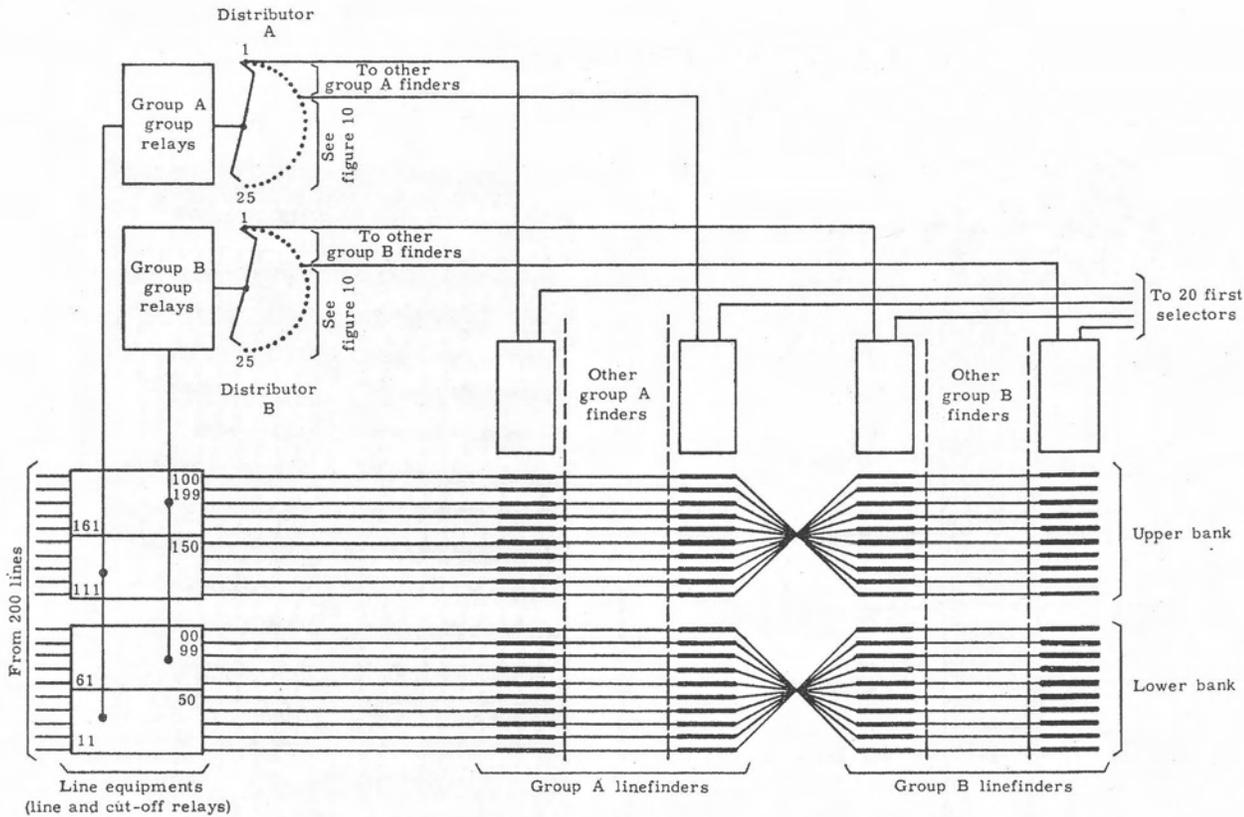
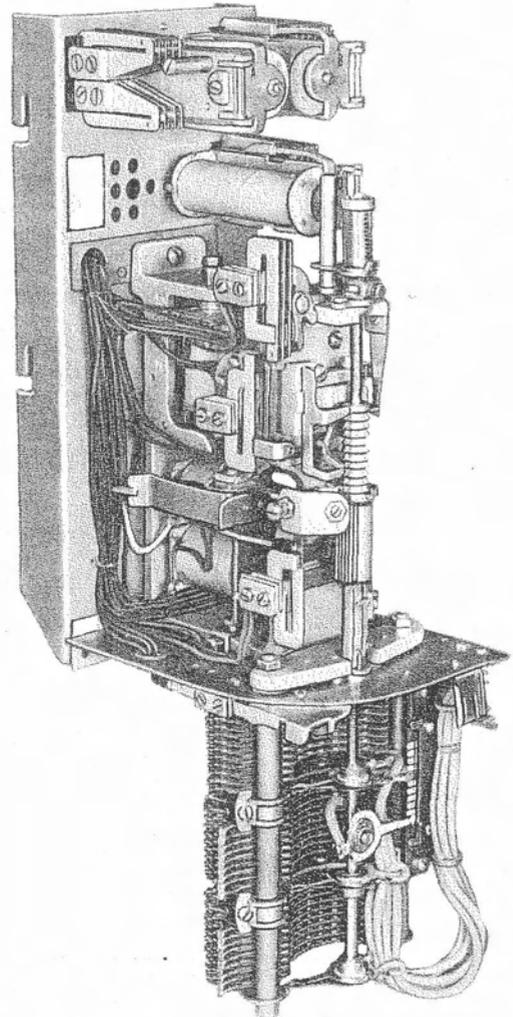
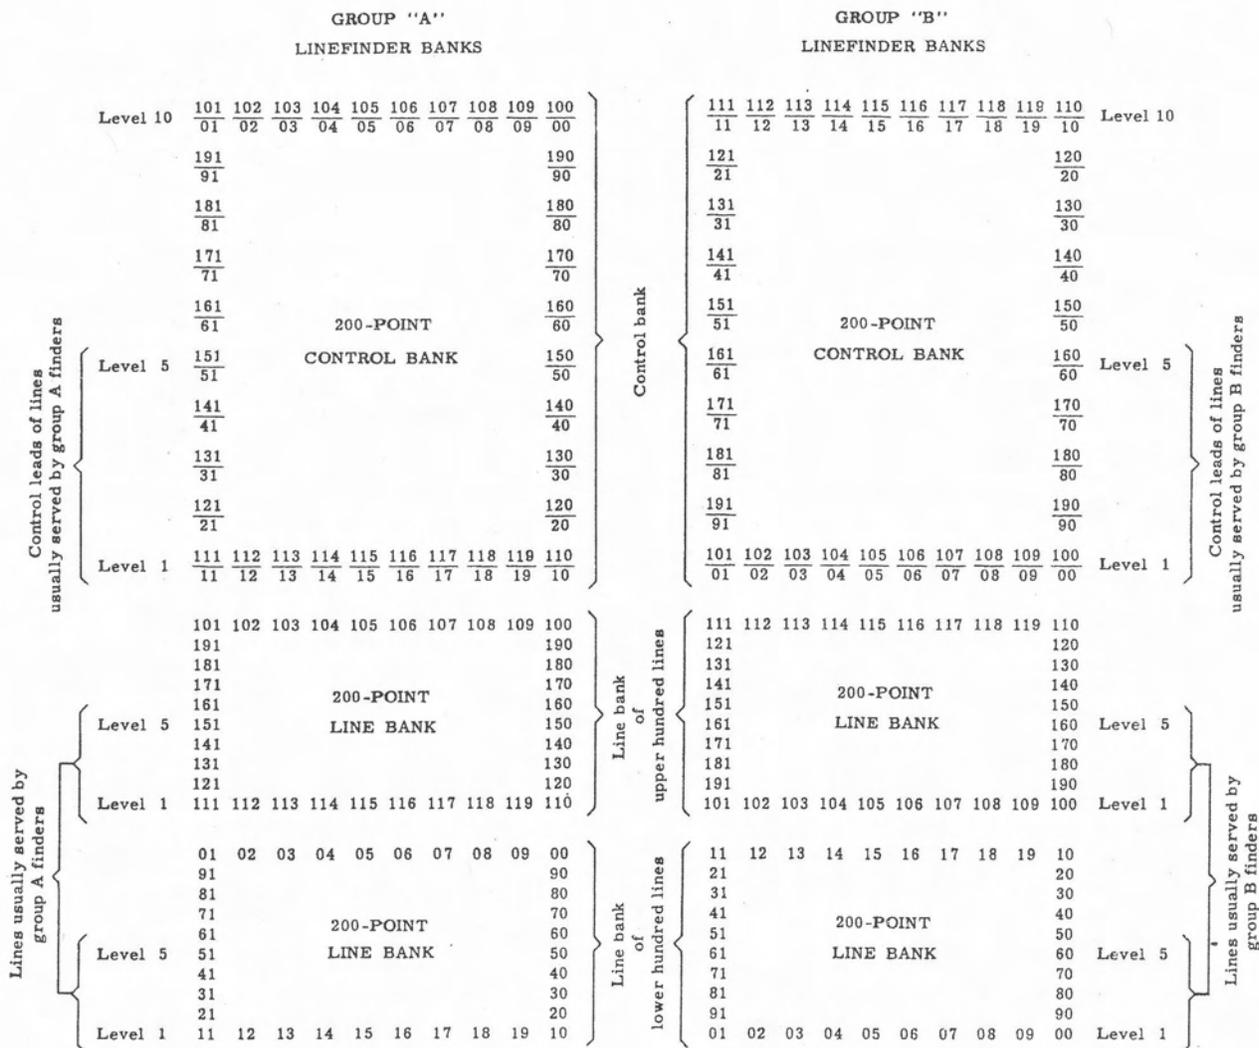
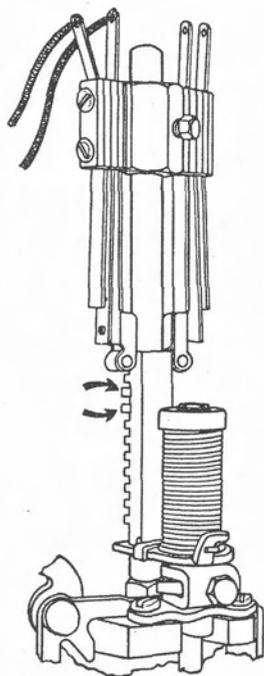

Figure 3. Two-hundred-line linefinders with bank reversal for preferential hunting.
Figure 11. Two-hundred-line linefinder switch.
Figure 12. Bank numbering for 200-line linefinders.
Figure 14. Normal-post springs.
1.5 Preferential hunting. Any calling line can be reached with a maximum of twenty steps of the linefinder, ten steps up and ten steps across. The average hunting time is reduced by reversing the bank multiple (figure 3). Then all lines are in the lower five levels of some linefinders' banks and can be reached in a maximum of fifteen steps, five up and ten across. The finders having each hundred's lower-numbered line equipments connected to the banks' lower five levels are called group A finders. The finders having each hundred's higher-numbered line equipments connected to the banks'
lower five levels are called group B finders. (Figures 3 and 12). With this arrangement, two distributors and two relay groups are necessary. A lower-numbered line equipment activates group A relays which start a preselected group A linefinder. A higher-numbered line equipment activates group B relays and a group B linefinder. This is known as "preferential hunting". A group A and a group B linefinder can be hunting simultaneously. If a low-numbered line equipment operates and all group A linefinders are busy, it will activate the group B relays which will cause a group B linefinder to connect to the line. Group A linefinders will likewise assume the group B linefinders' load when all group B linefinders are busy. This feature is valuable not only to give faster service but also permits routing the switches and group relays without denying service to any subscriber.
3.4 Linefinders. The linefinder (figure 11) connects the calling line to the associated idle selector. Every line is connected to the contact banks of all the linefinders on its shelf. Each line has a + wire, a - wire, and, within the central office, a control wire. Figure 12 shows their location on the group A and group B linefinder banks. (In the control bank each number represents a metallic contact; each horizontal line, an insulator.) The line contacts for line equipments 00 to 99 are in the lower line bank and the line contacts for line equipments 100 to 199 are in the upper line bank. The control contacts of the 200 lines are in the control bank. Those lines appearing on the lower levels of group A linefinder banks appear on the upper levels of group B linefinder banks (figures 3 and 12) because of the reverse multiplying between the groups. The linefinder's vertical wiper (figure 11) touches a different vertical contact after each vertical step. The bottom vertical contact keeps the vertical-bank wiper properly aligned when at its normal position.
A typical 200-line linefinder consists of a Strowger switch and three relays mounted on a base plate (figure 11). A metal cover (not shown) protects the assembly from dust and physical injury. The Strowger switch mounts, in addition to those contacts already mentioned, vertical-off-normal contacts (which release mechanically when the shaft and wipers are lifted from their normal position), rotary cam contacts (operating when the shaft and wipers take the eleventh rotary step), and normal-post springs (operating when the linefinder shaft and wipers rise to a level whose lug (figure 14) has been bent*, §6.1, §6.2, and §6.3). The pattern of bent lugs